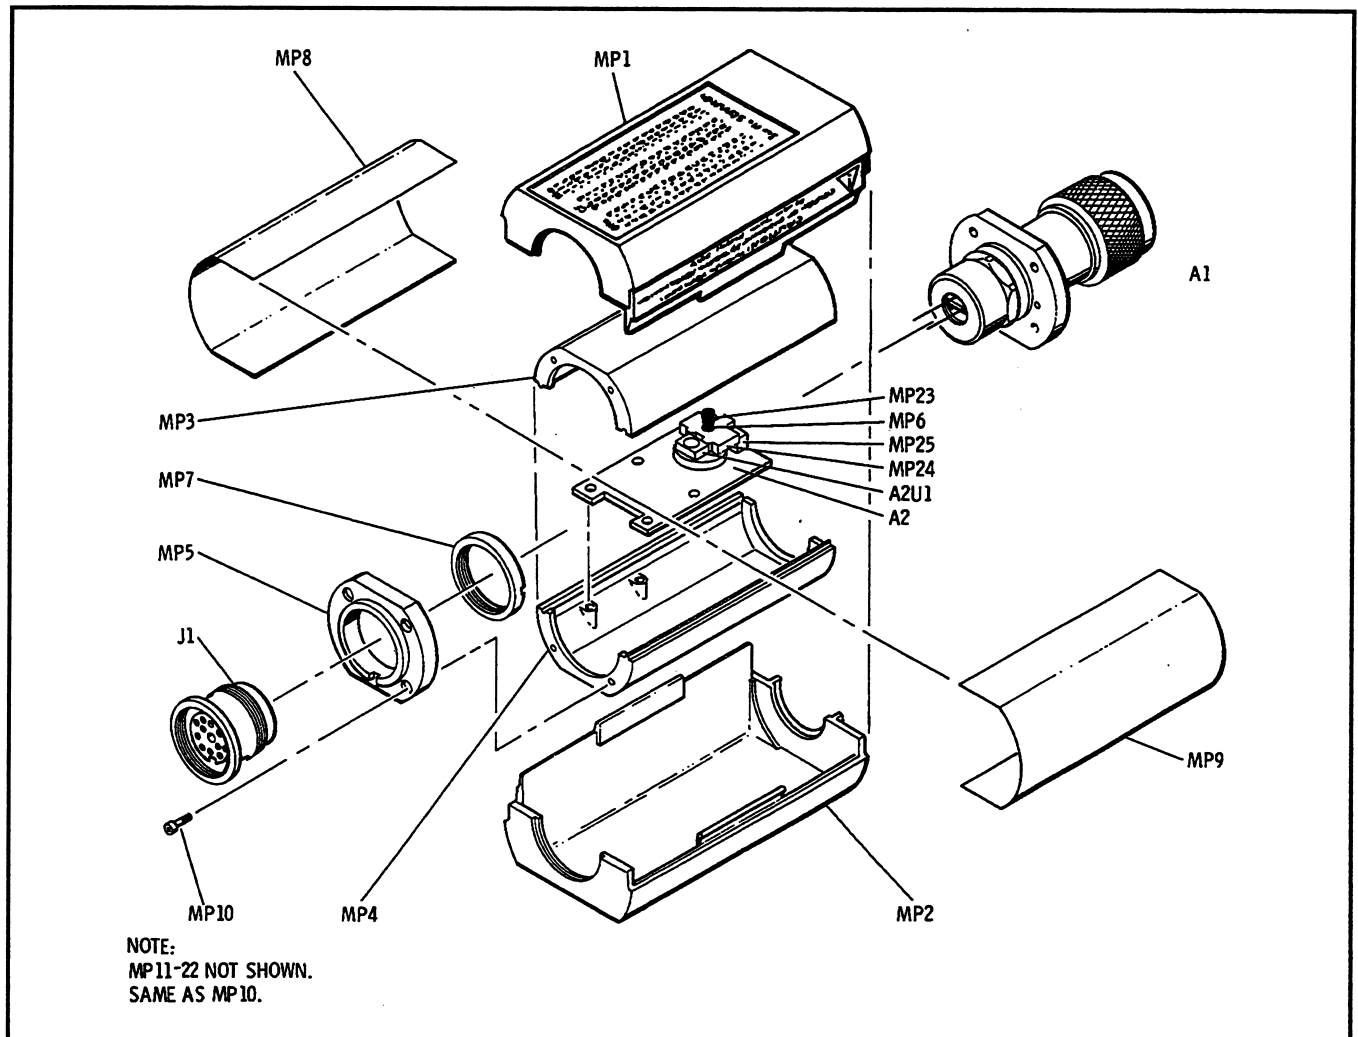

Figure 2. Illustrated Parts Breakdown
Table 5 is a list of replaceable parts. Figure 2 illustrates the major parts. To order a part listed in the "Replaceable Parts" table, quote the Hewlett-Packard part number with Check Digit (CD), indicate the quantity required, and address the order to the nearest Hewlett-Packard office.